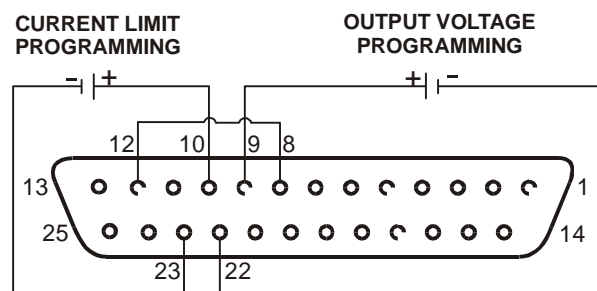

Fig. 6-1: Remote Voltage Programming Connection
- Connect the programming source to the mating plug of J1 as shown in Fig.6-1. Observe correct polarity for the voltage source.